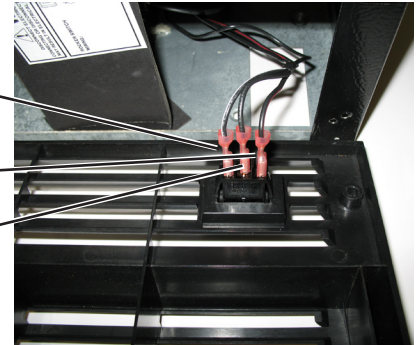

Figure 3.4
3. Remove the grill by removing the two or four screws (depending on grill style) and disconnecting the three wires to the rocker switch (see Figure 3.4).
6. Take out the two screws that secure the top of the electrical bracket located in the front of the mechanical area (see Figure 3.4).